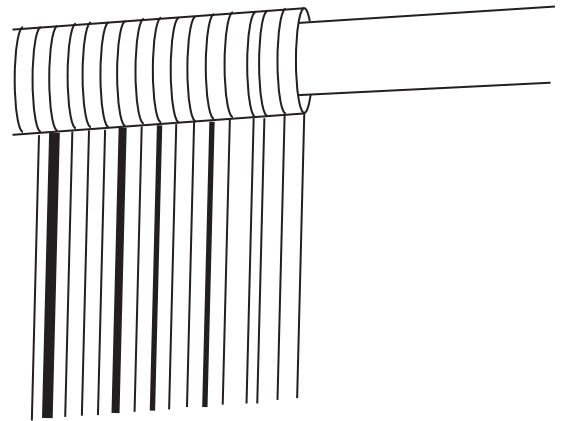

Figure 3
- ② Thread horizontal drape support through top pocket of drape (see Fig. 3).